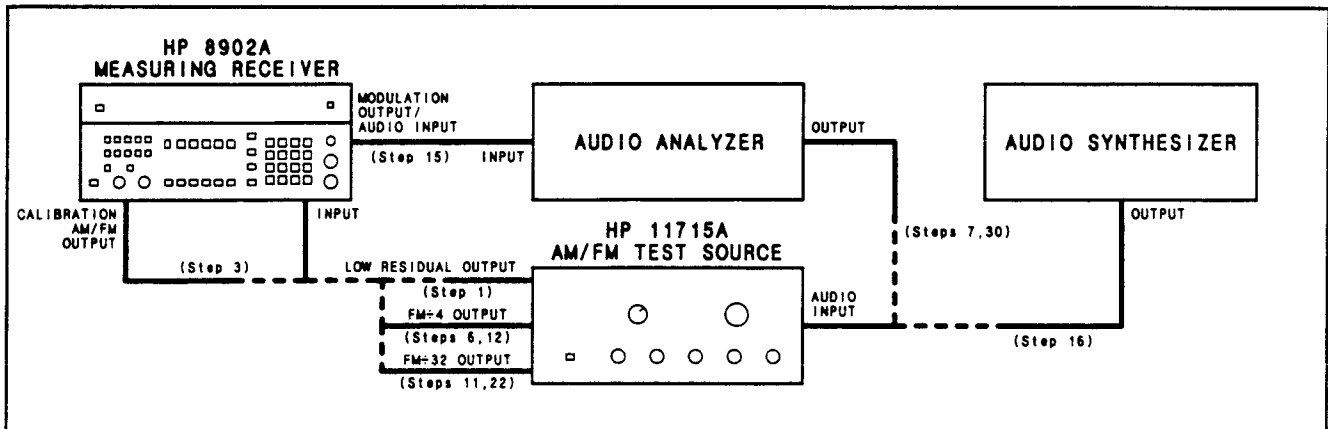

Figure 4-2. FM Performance Test Setup
1. On the AM/FM test source, set the test mode to residual FM. Connect its low-residual (560 MHz) output to the Measuring Receiver's INPUT. (See Figure 4-2.)
3. Connect the Measuring Receiver's CALIBRATE AM/FM OUTPUT to the INPUT. (See Figure 4-2.)
6. On the AM/FM test source, set the test mode to FM. Connect its FM÷4 output to the Measuring Receiver's INPUT. (See Figure 4-2.)
7. Set the audio analyzer's oscillator to 10 kHz at 1V. Connect its output to the audio input of the AM/FM test source. (See Figure 4-2.)
11. Connect the FM÷32 output of the AM/FM test source to the Measuring Receiver's **INPUT** without disturbing the AM/FM test source's controls. (See Figure 4-2.) Multiply the displayed ratio on the Measuring Receiver by the calibration factor of step 4. (For example, if the display reads 12.52% REL and the calibration factor of step 4 is 100.4%, the result is $12.52 \times 100.4 = 12.57\%$ REL.) The result should be between 12.35 and 12.65% REL.
12. Connect the FM÷4 output of the AM/FM test source to the Measuring Receiver's **INPUT**. (See Figure 4-2.)
15. Connect the audio analyzer's input to the Measuring Receiver's **MODULATION OUTPUT/AUDIO INPUT**. (See Figure 4-2.) Set the audio analyzer to measure the distortion on the 100 kHz signal at the **MODULATION OUTPUT/AUDIO INPUT** (all audio analyzer filters should be off). The distortion should be 0.1% or less (-60 dB or less).
16. Set the multifunction synthesizer to 10 kHz at +5 dBm. Connect its output to the audio input of the AM/FM test source. (See Figure 4-2.) Fine adjust the level for a Measuring Receiver display of 100 kHz times the calibration factor of step 5. (For example, if the calibration factor of step 5 is 100.4%, set the level for a display of 100.4 kHz.)
22. Connect the FM÷32 output of the AM/FM test source to the Measuring Receiver's INPUT. (See Figure 4-2.)
30. Set the audio analyzer's oscillator to 10 kHz at 4V. Connect its output to the audio input of the AM/FM test source. (See Figure 4-2.) Fine adjust the oscillator level for a Measuring Receiver display of 10 kHz peak deviation.